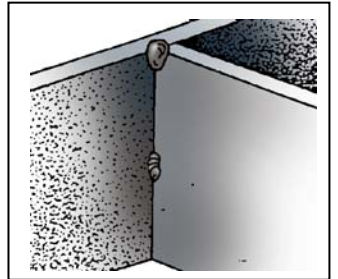

Figure 1
5. Tack weld the pieces together at a 90-degree angle, leaving approximately a 1/16-in. gap between the pieces. Refer to Figure 1.